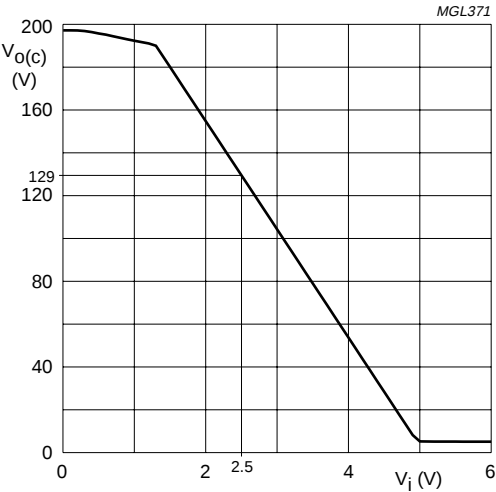

Fig.5 Typical DC-to-DC transfer of V_i to $V_{o(c)}$.
1. See also Fig.5 for the typical DC-to-DC transfer of V_i to $V_{O(c)}$.